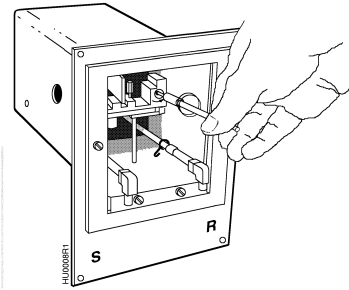

Figure 2 Hygrostat Calibration.
3. Remove cap plug on duct cover and insert calibration tool to make adjustments given in *Room Type*, Steps 4 and 5. See Figure 2.